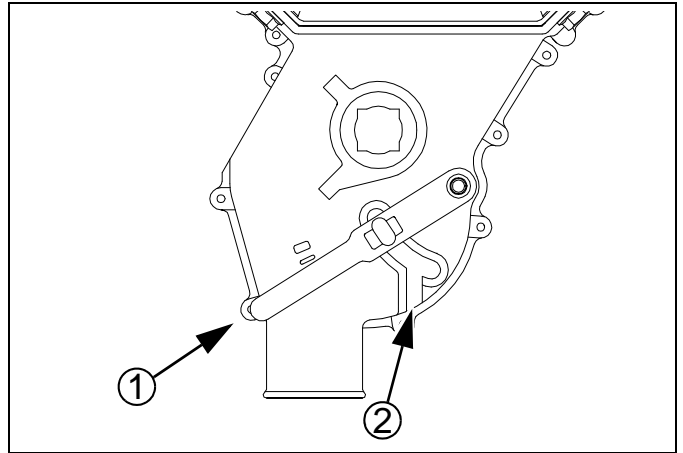

Figure 20
Refer to Figure 20, which depicts the seed cup door handle ① in a normal operating position.
1. Set the Seed Rate Handle to zero (0). This moves the seed cup sprockets out of the seed path.
3. At the seed cup for that row, pull the door handle ① out of the operating detent range, and swing it down to position ②.